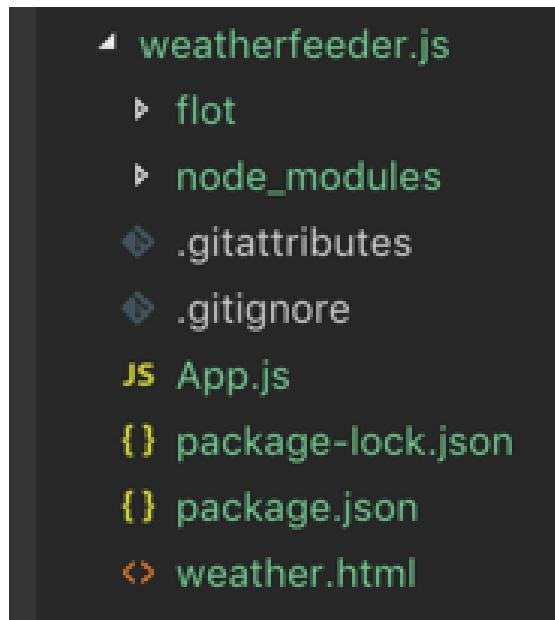

Figure 6.6: The project structure for `weatherfeeder.js`
*Figure 6.6* shows our project structure: